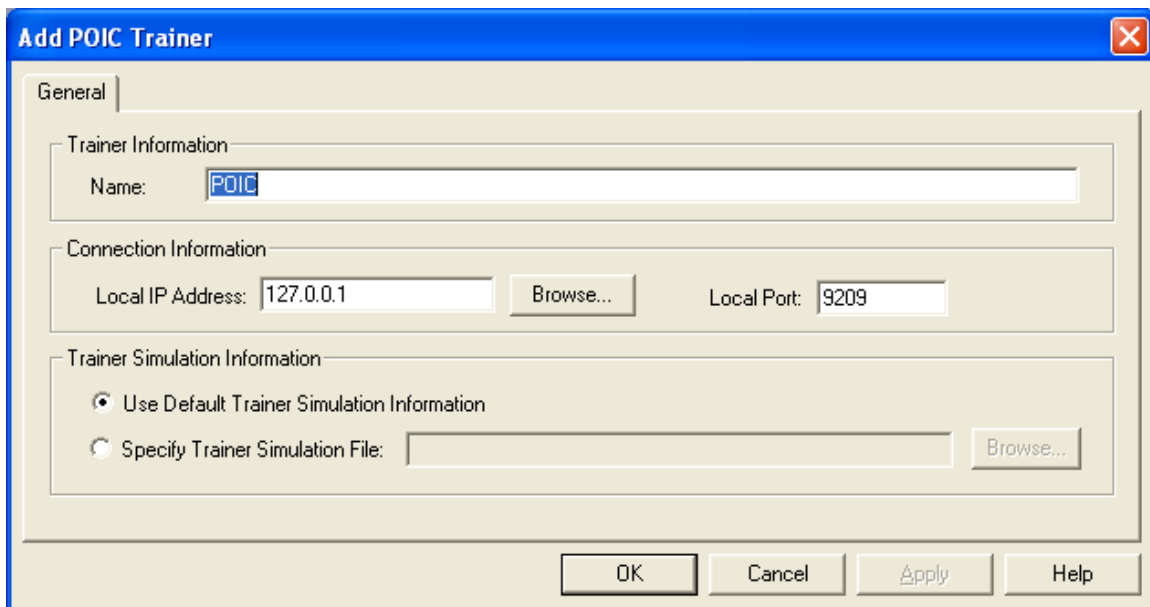

Figure 26 Add POIC Trainer Dialog
8. Go to the **Trainer** menu and select **Add POIC Trainer**. The **Add POIC Trainer** dialog as shown in Figure 26 will appear.